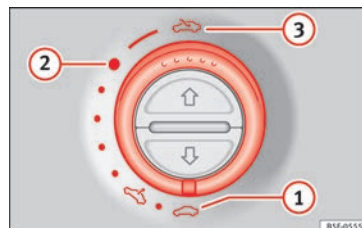

Fig. 11 On the interior roof lining: use the rotary button for opening and closing
- Opening: Turn the switch to position » » **Fig. 11** ③.
- Convenience position: Turn the switch to position » » **Fig. 11** ②.
- Closing: Turn the switch to position » » **Fig. 11** ①.